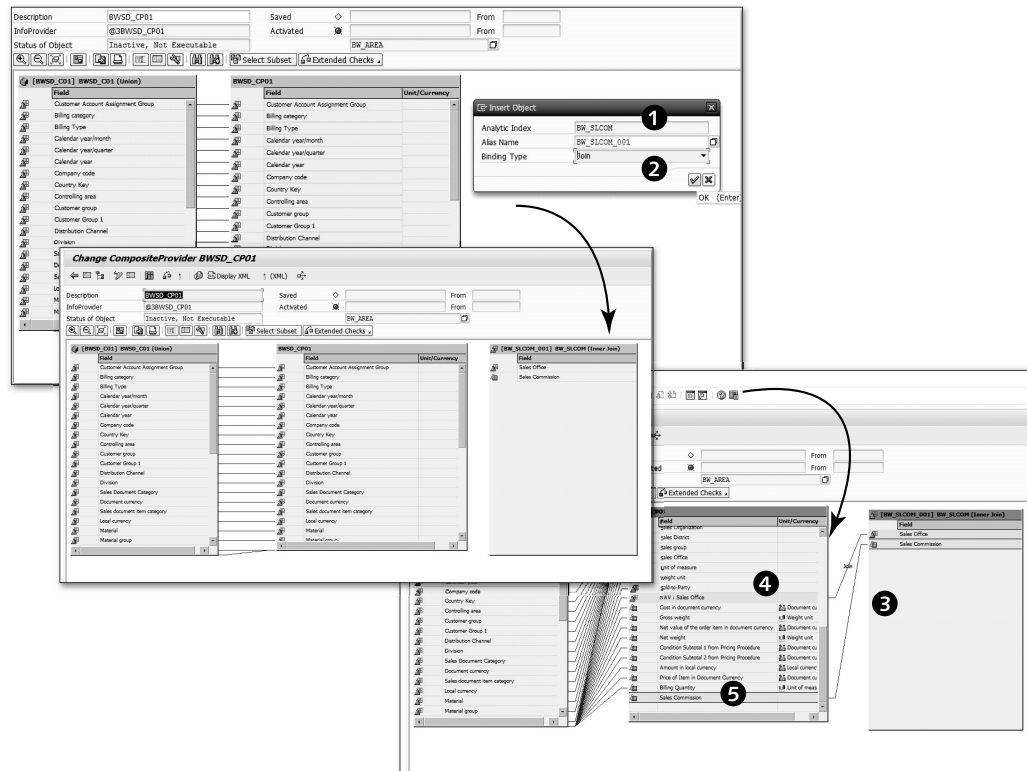

Figure 6.72 Defining a CompositeProvider: Part 2
Now identify other objects for the sales commission data from the panel on the left side by following the same process as for BWSD_C01. For this example, we selected BW_SLCOM (1 of Figure 6.72) and chose JOIN in the BINDING TYPE field (2).
The new object now is available in the right panel. The fields are mapped to the CompositeProvider via drag and drop (3 of Figure 6.72). The join for SALES OFFICE (4) is defined specifically while including the key figure for SALES COMMISSION (5) in the CompositeProvider definition.